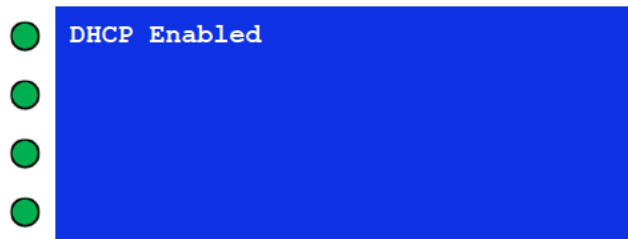

Figure 18: DHCP with Cursor
- When the LCD display shows the screen in Figure 18, press ↓. The DHCP screen appears.